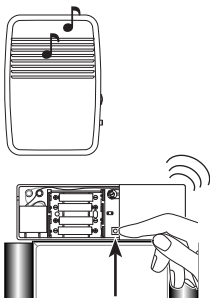

Figure 4
4. **Test range.** Temporarily position chime extender next to existing chime. Press “Test” button inside chime extender (see Figure 4). Verify red LED on chime extender flashes momentarily and chime sounds. *Note:* Do not permanently mount the chime extender until you are sure they are working properly.